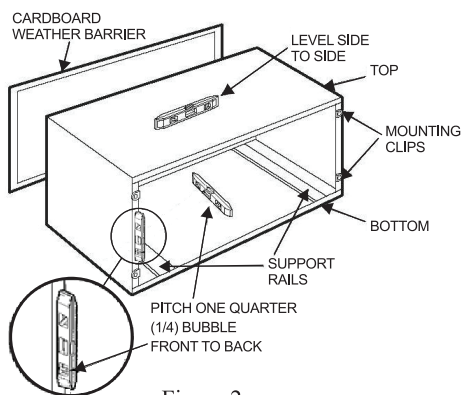

Figure 2
Step 3 Leveling Sleeve — Place level in locations shown in Figure 2. Sleeve must be mounted level side to side and a ¼ bubble tilt front to back. This allows for proper condensate drainage.